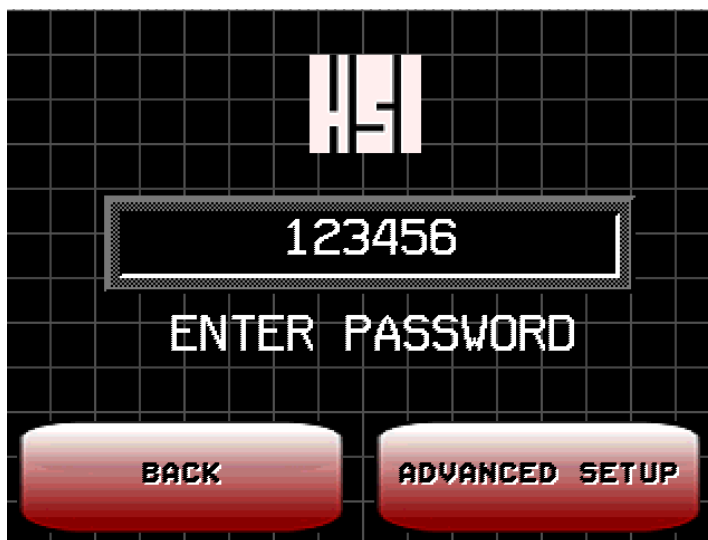

Figure 3.14
2. Enter password to enter (Figure 3.14).